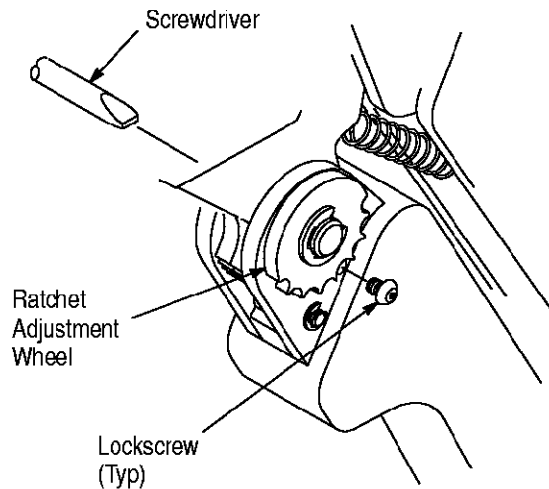

Figure 6
**6. SHUT HEIGHT ADJUSTMENT** (Figure 6)